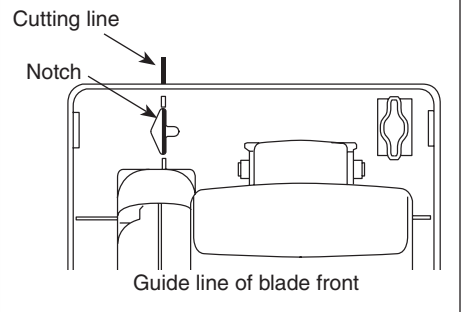

Fig.3
1. Line up the sight line on shoe with your cutting line. (See Fig.3)